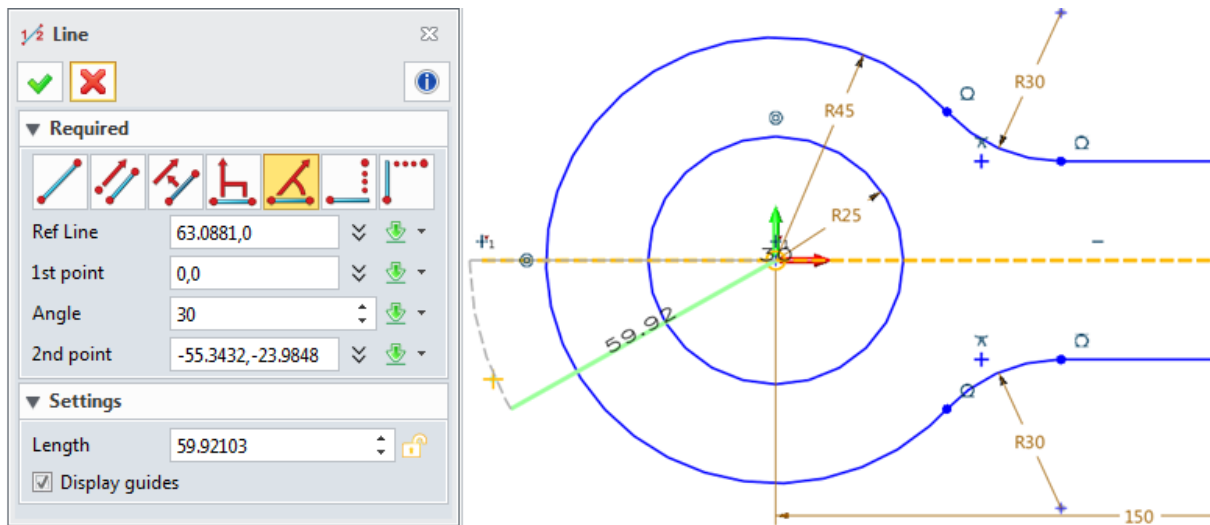

Figure 104 Create a Line
**STEP 08** Create a line with 30 degree angle with the horizontal line, refer to the Figure 104.